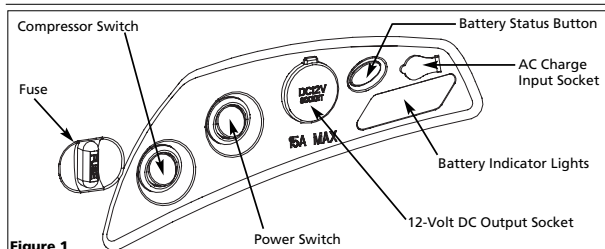

Figure 1
Push the battery status button located above the battery indicator lights (see Figure 1) to check the battery level. A green light indicates the battery has a voltage of 11.5 volts or higher and is safe to operate. A yellow light indicates the battery has a voltage between 10.5 to 11.5 volts and needs to be recharged. A red light indicates the battery voltage has dropped below 10.5 volts and needs to be recharged immediately.
1. Push the power switch to the off position and insert the 120-volt AC recharging adapter into the AC charge input socket located above the battery indicator lights (see Figure 1).
1. Insert the 12-volt DC cord into the 12-volt DC output socket on the inflator (see Figure 1).